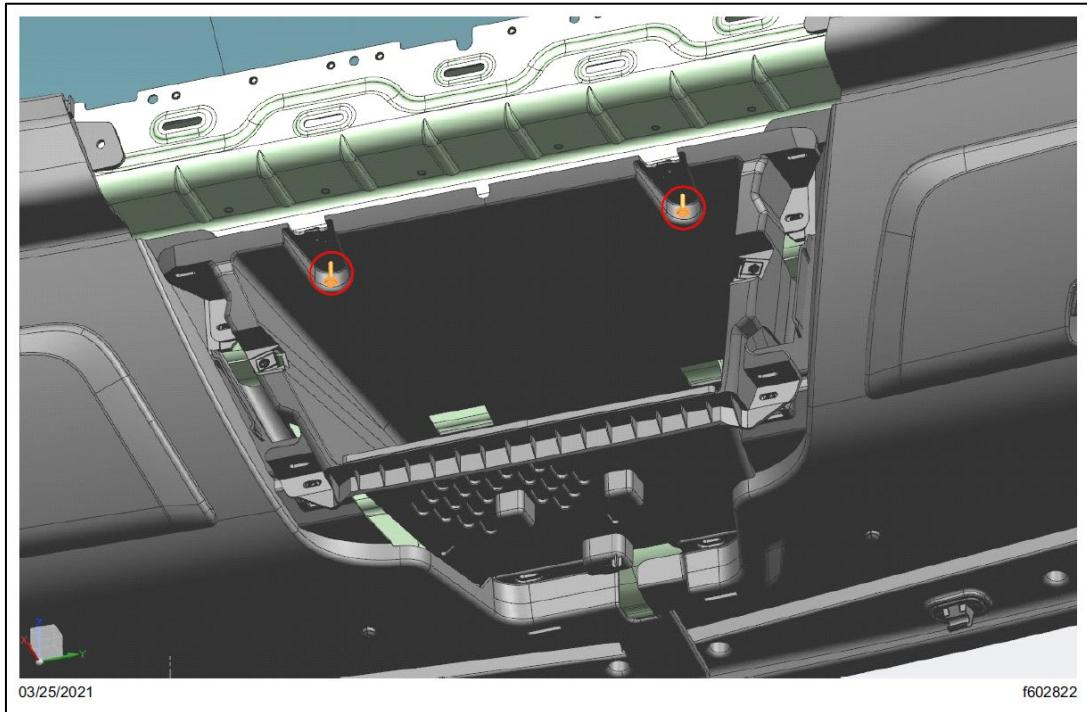

Fig. 49, Fasteners That Attach the Center Storage Bin to the Cab Roof
8.6. Remove the two fasteners that attach the center storage bin to the cab roof. See **Fig. 49**.